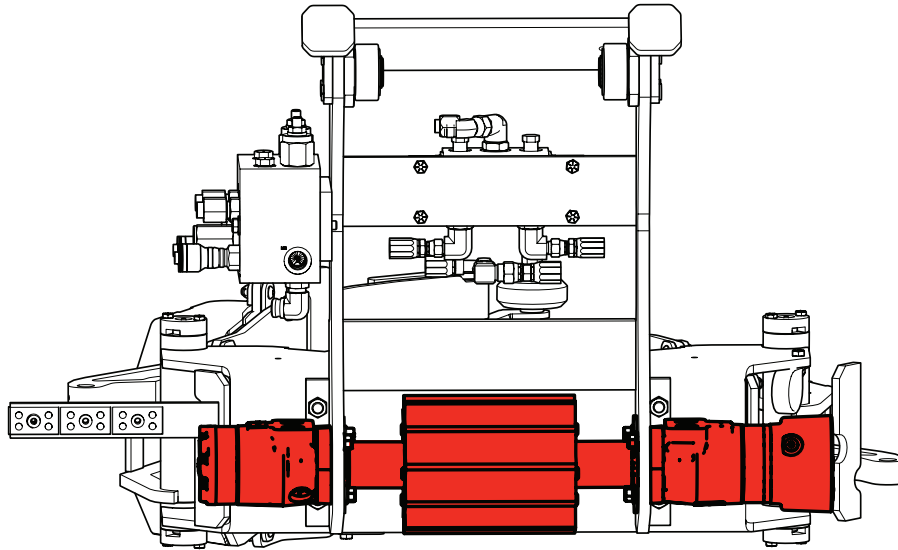

Figure 5
**NOTE: The next steps detail work conducted on the backside of the grabber carriage assembly (see Figure 5).**
11. Remove the motors, grabber gear, and all related hardware (Figure 5). Retain these items until further notice in this bulletin.